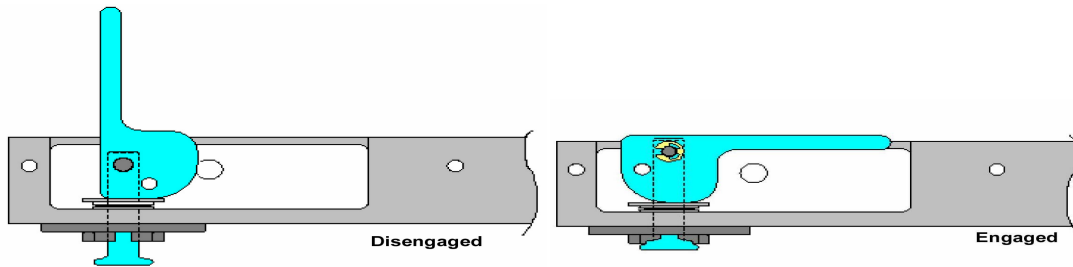

Figure 6-1.- Lever Positions
3. Rotate levers (four) to disengaged position (see Figure 6-1)